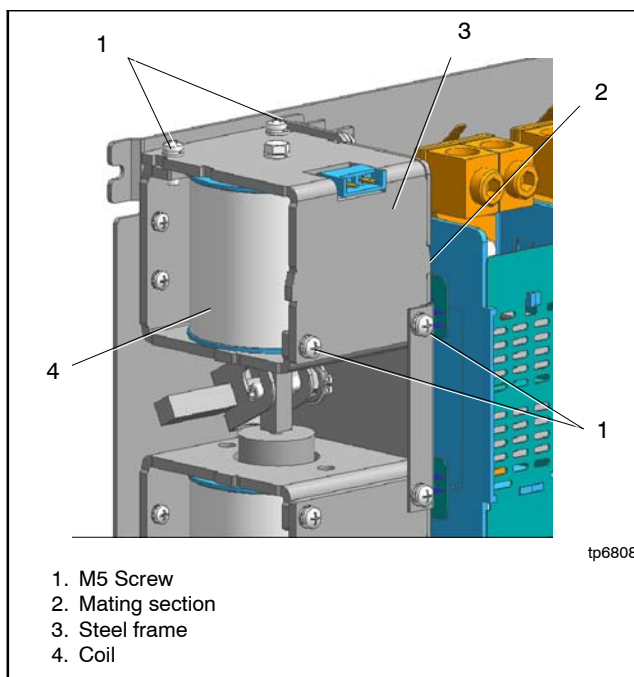

Figure 7-56 Coil and Frame
1. Remove four M5 screws. See Figure 7-56.
2. Remove the steel frame by sliding toward the left. The frame is fit to the body at the mating section. See Figure 7-56.